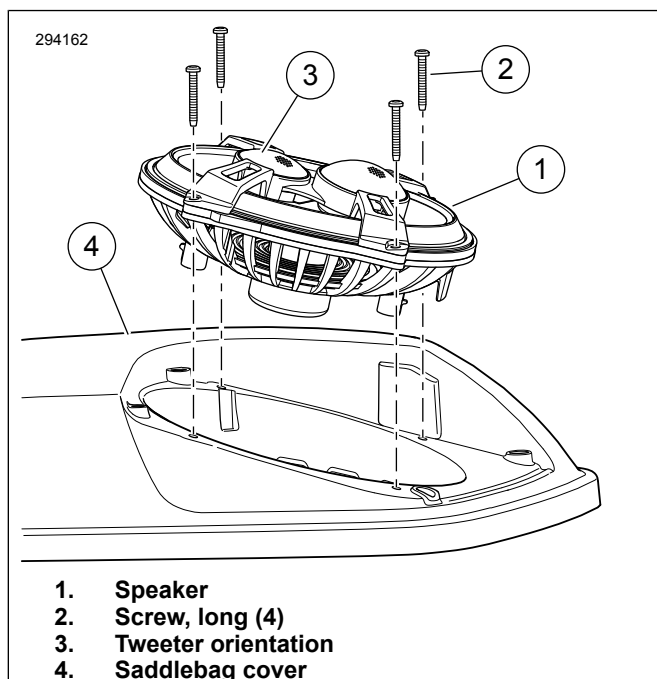

Figure 1. Speaker Orientation
3. See Figure 1. Position the smaller tweeter speaker (3) is toward the rear of the saddlebag as shown.
4. Secure the speaker (1) with the four long screws (2). Alternately tighten screws. Tighten.